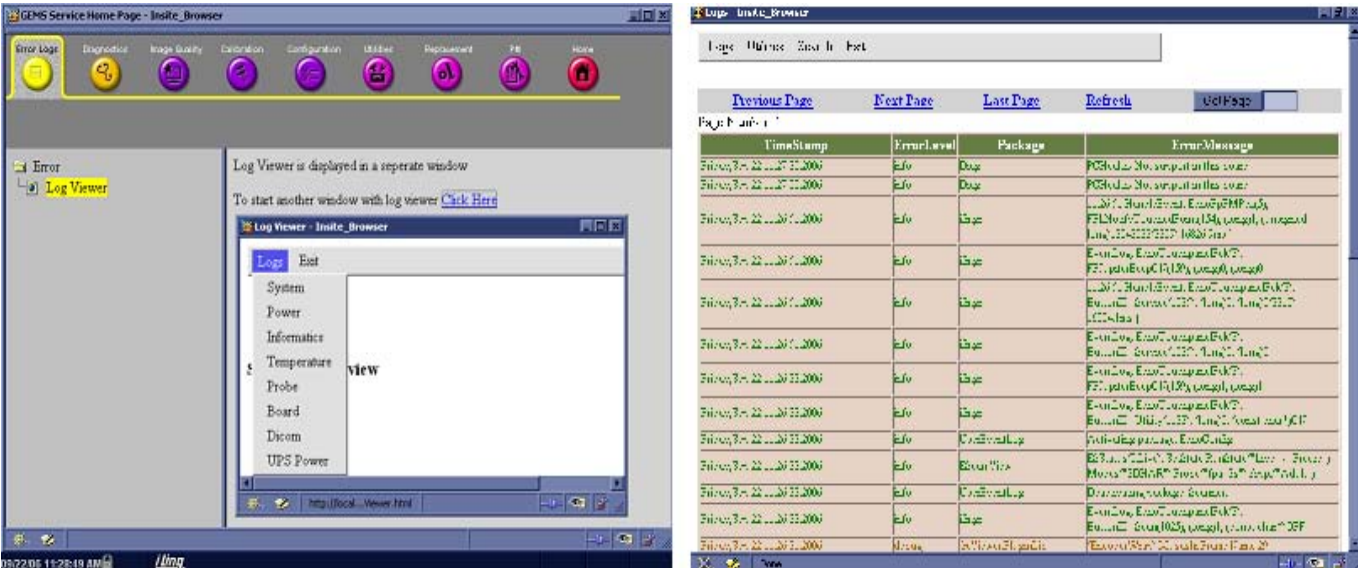

Figure 5-35      Log Viewer / Logs / Log Entries
*NOTE: Figure 5-35 provides a graphical example of the log entries for the **System Logs**.*